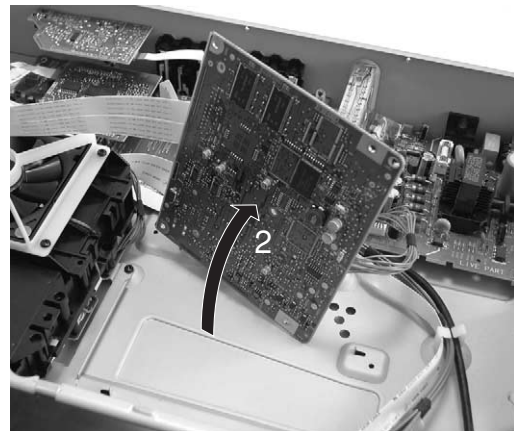

Fig. 6
- b. Turn the PCB in the service position. (Fig. 6)